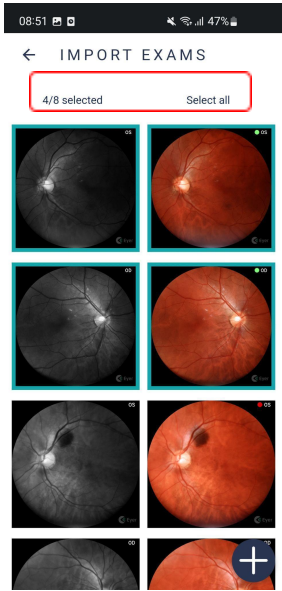
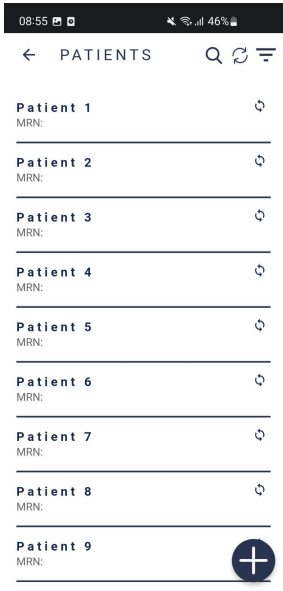

Figure 29 - Desired images
Figure 30 - Patients screen
5. Add the selected images to the respective patient, figure 29 and figure 30